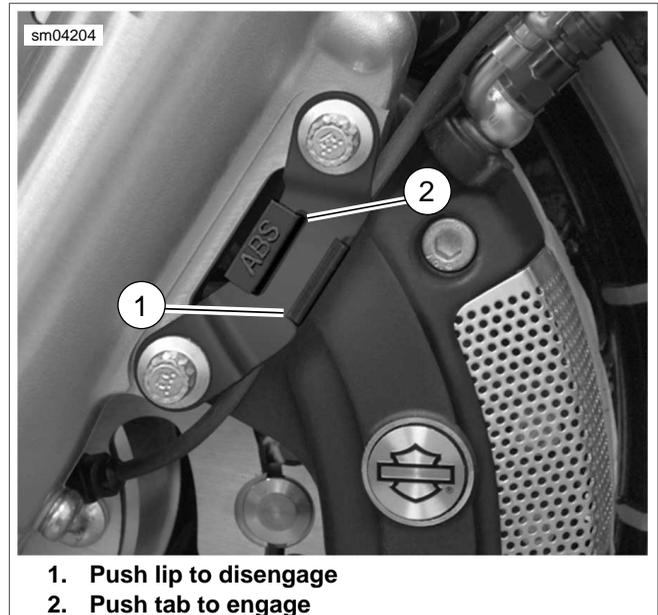

Figure 2-2. Front Wheel Speed Sensor Cable Clip (ABS Equipped)
4. See Figure 2-2. On ABS equipped motorcycles, release front wheel speed sensor cable from clip as follows: